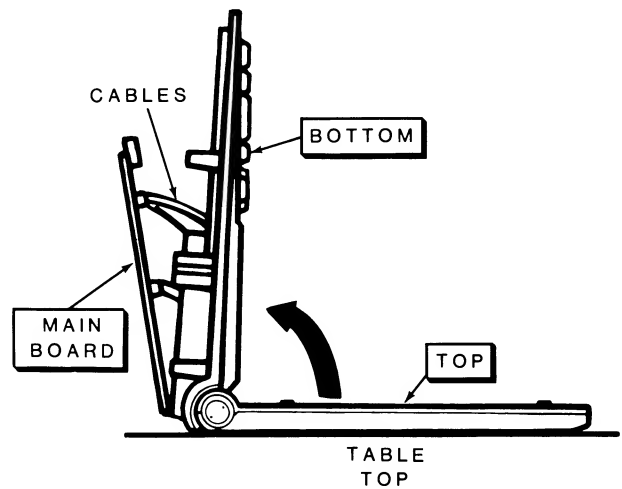

Figure 19-9. Freeing the Main Board
4. Refer to Figure 19-9 and open the computer as shown. Swing the bottom of the computer open until it is standing in a vertical position.